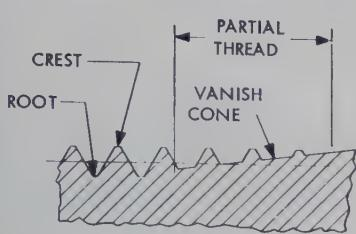

FIG. 6
**Partial Thread:** The partial (or incomplete) thread is that portion at the end having roots not fully formed by the lead or chamfer on the threading tools. This is also known as the vanish or washout thread. See Fig. 6.